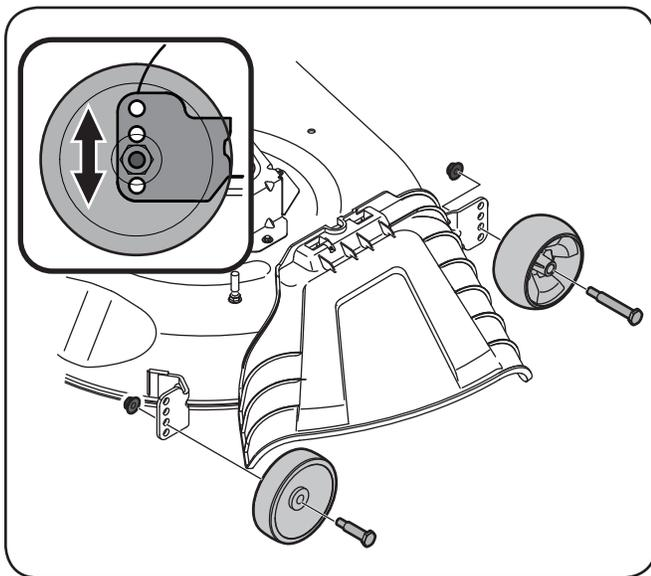

Figure 3-12
- b. Remove the front and rear deck wheels by removing the flange lock nuts and shoulder bolts that secure them to the deck. See Figure 3-12.